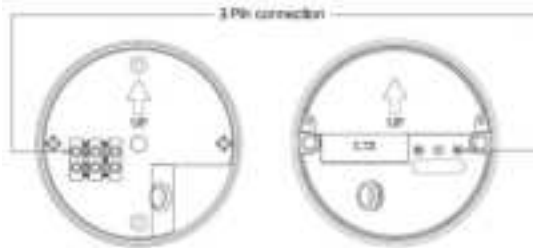

Fig 1.
- Now the light simply plugs back into base by lining up arrow and 3-Pins with terminal. See Fig 1.